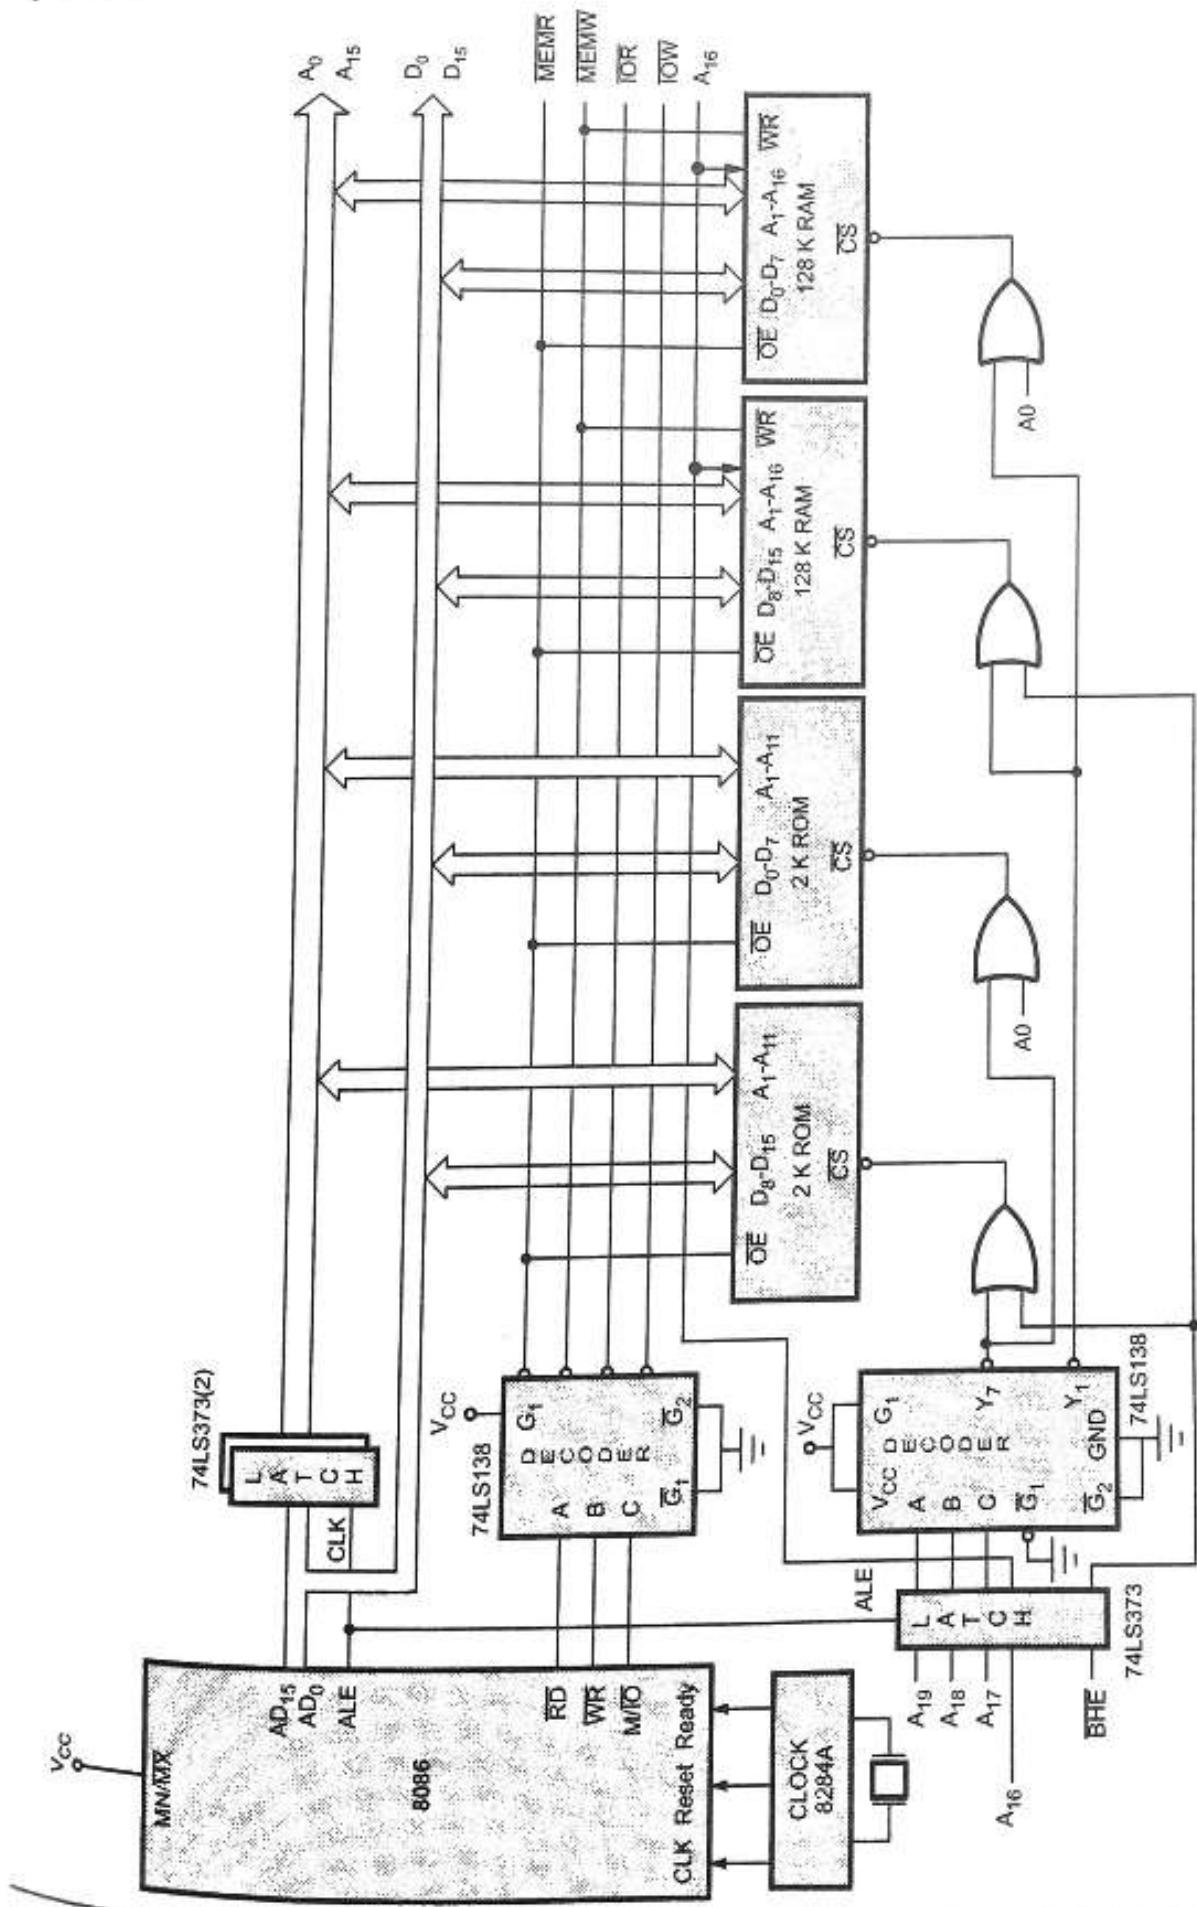

Fig. 3.2.3 Interfacing 128 K RAM and 2K ROM with 8086 in minimum mode
- As 64 kbyte RAM needs 16 address lines, A₁ to A₁₆ lines are used and 2 K ROM needs 11 address lines, A₁ to A₁₁. A₀ and \overline{BHE} are used to select even and odd memory banks respectively. Fig. 3.2.3 shows the interface between 8086 and two memory chips. (See Fig. 3.2.3 on page number 3 - 17)